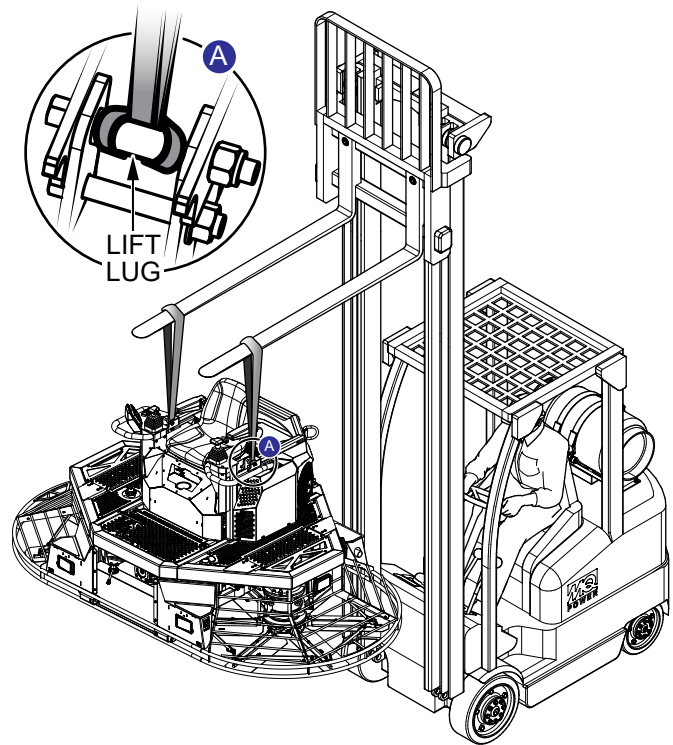

Figure 3. Lifting the Trowel (Lift Lugs)
2. With the lifting bail lowered (Figure 3), secure the lifting slings to the lift lugs located at the bottom of the lifting bail.